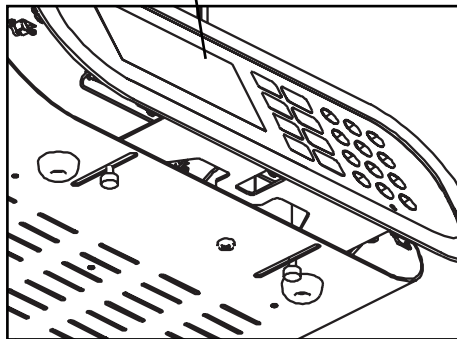

Fig 2E
7. Slide the face plate forward. Fig. 2E